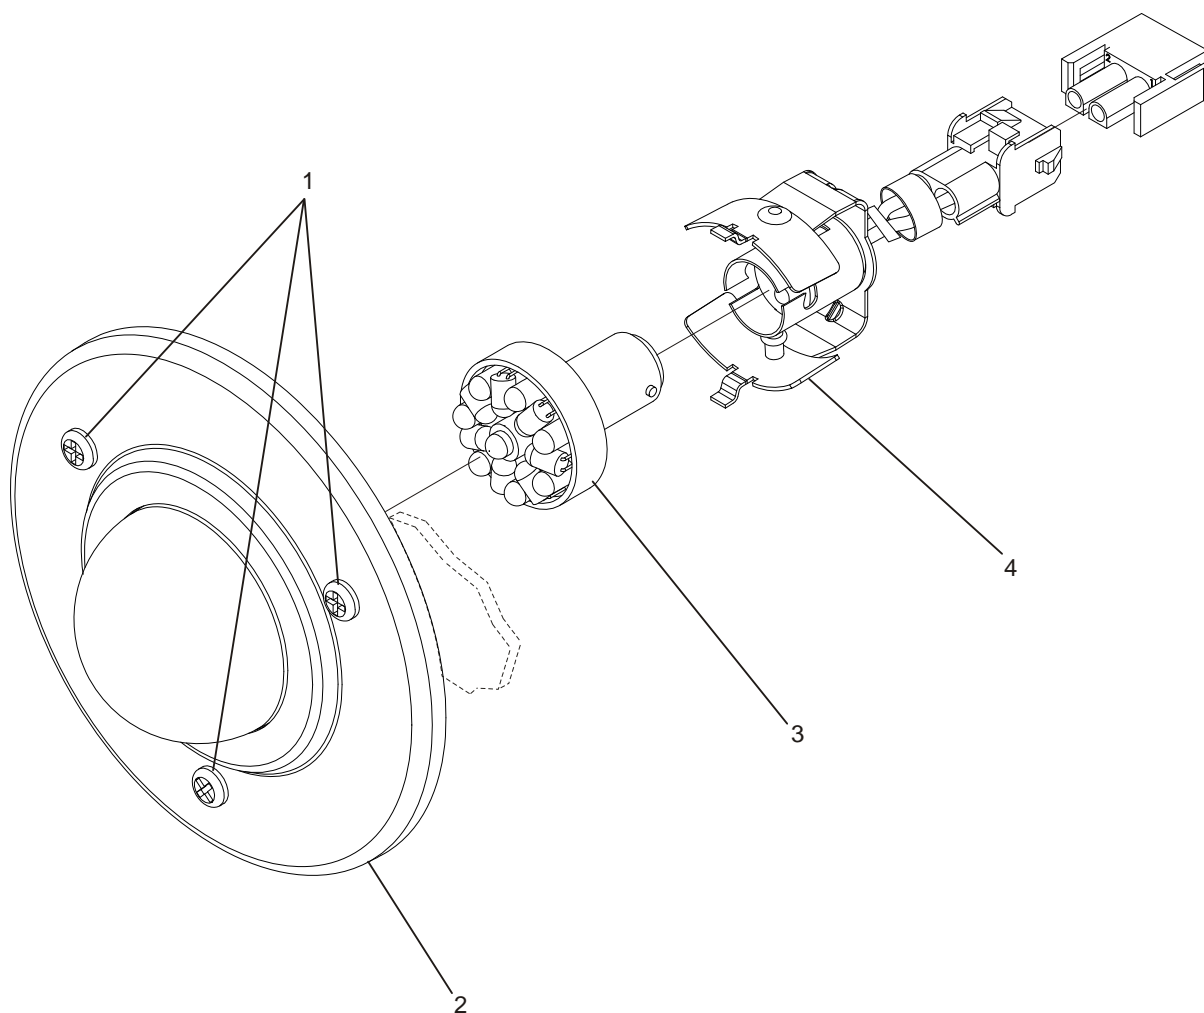

Figure 7-14: Replace Cutout Active Indicator Lamp
2. Remove three cross recessed screws (1, Figure 7-14) from the housing (2).
3. Push down on the lamp unit (3) gently and rotate the lamp unit one-quarter turn to the left.
4. Remove the defective lamp unit from the socket assembly (4).
5. Install a replacement lamp unit (3) by inserting it into the socket assembly (4) and pushing down on it gently while rotating one-quarter turn to the right.
6. Replace the housing (2) using three cross recessed screws (1).